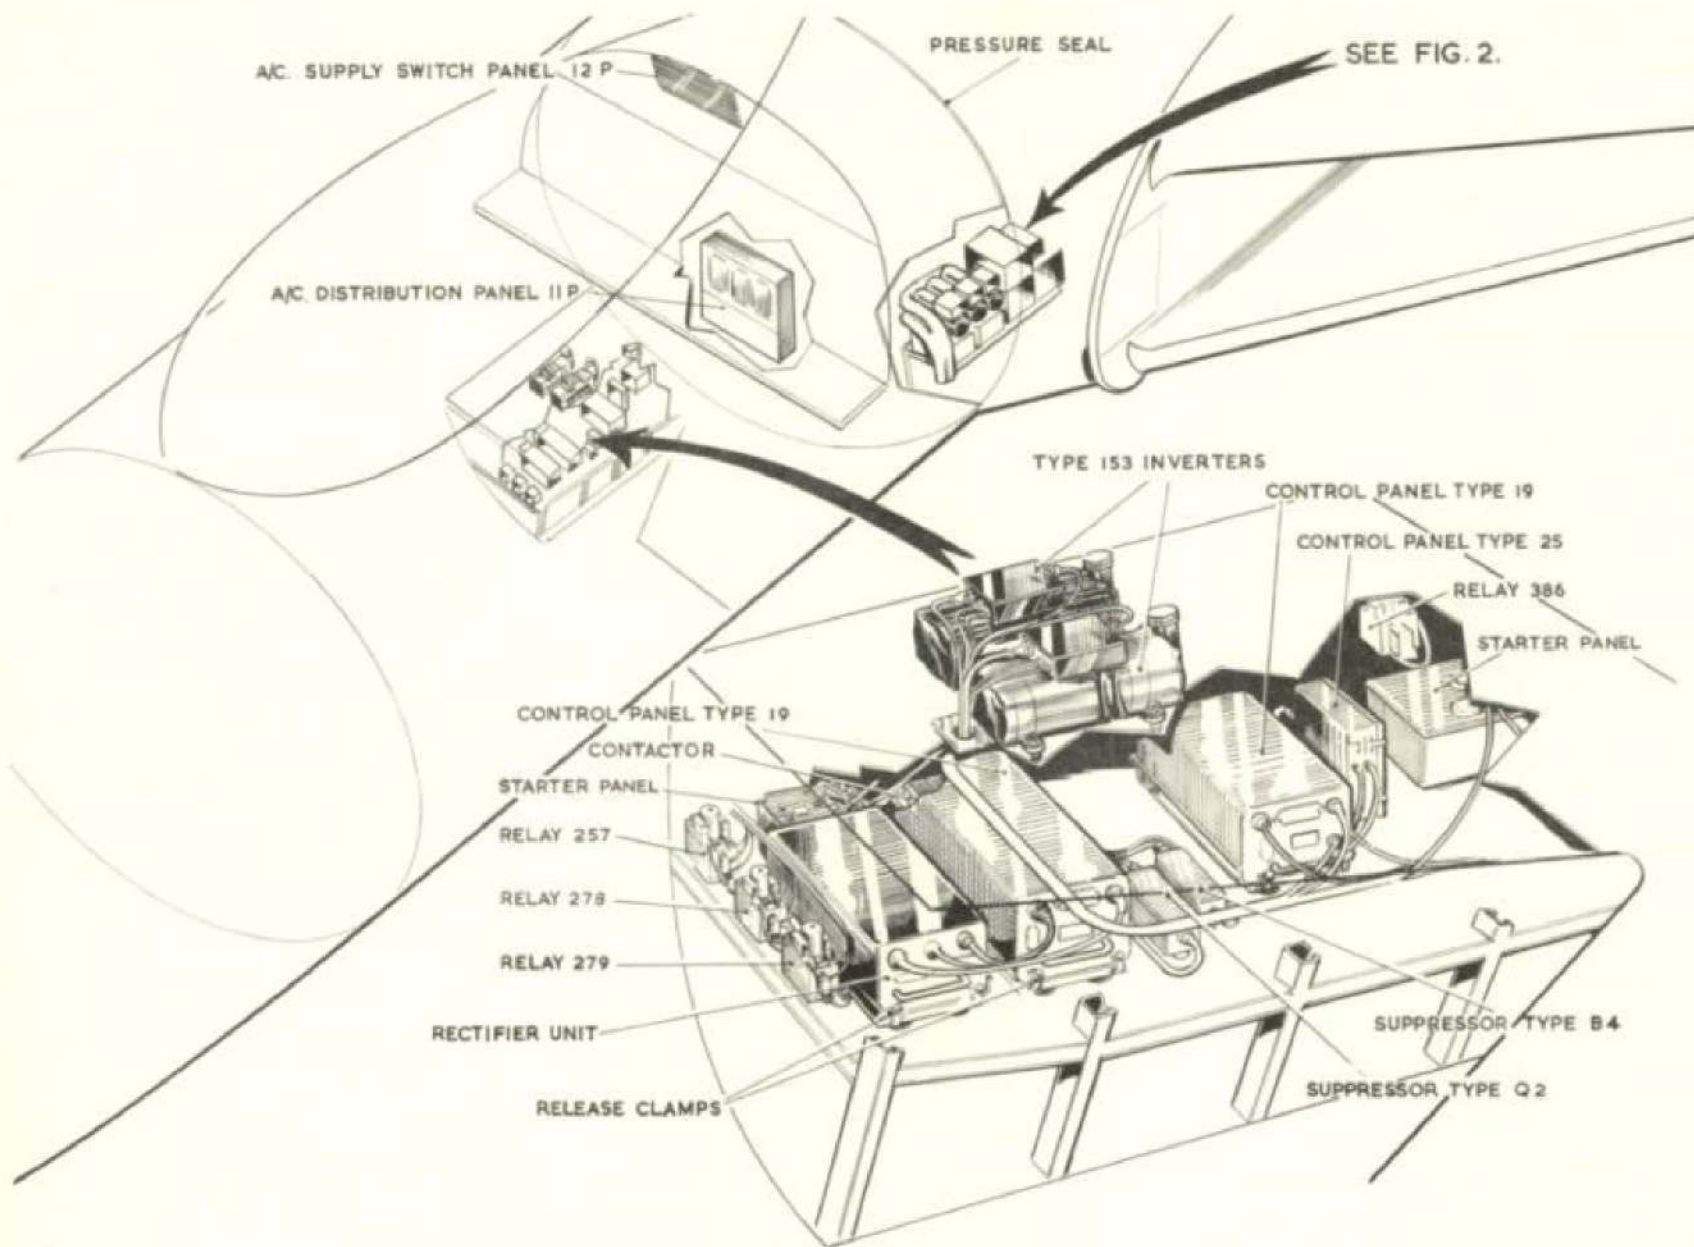

Fig. 6 Location of Type 153 inverters
33. The Type 153 inverter is designed to give an output of 115 volts, 3-phase, 400 c/s a.c., with an input of 110 to 116 volts d.c. Two such inverters, Nos.4 and 5, are fitted under the navigator's chair, their associated starter panels, control panels and rectifier units being installed on the starboard side of the cabin under the crew's floor as illustrated in fig.6.
56. The control panels, rectifier units and starter panels are secured to the rack under the crew's floor and their removal is straightforward (see fig.6 for positions of components). Having lowered the platform, the equipment may be safely transferred to a suitable trolley.